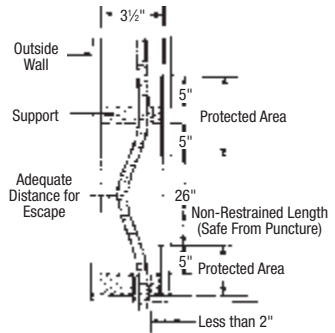

Figure 4.9 Elevated View of Unsupported Horizontal Tubing Run
1. At support points and areas of possible penetration less than 2 inches away from any edge of a stud, joist, plate, etc., shielding is required both at the area of support and within 5 inches of each side. (Figure 4.9)